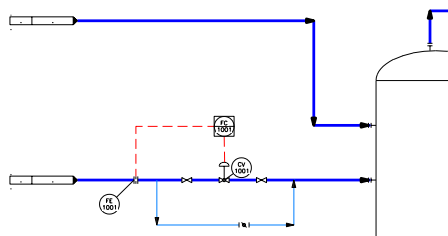

Figure 2-86 Off page connectors placed at the endpoints of the feed line and reflux line
3. Similarly, place off page connectors at the locations shown in Figures 2-86 and 2-87.